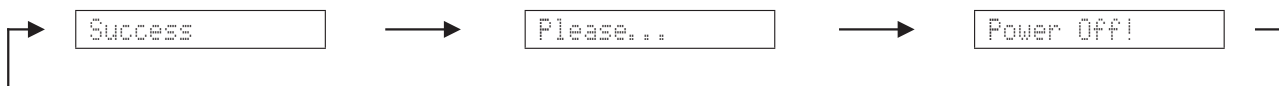

Fig. 3
3. When writing of the firmware is completed, "Success", "Please..." and "Power Off!" are displayed repeatedly. (Fig. 3)